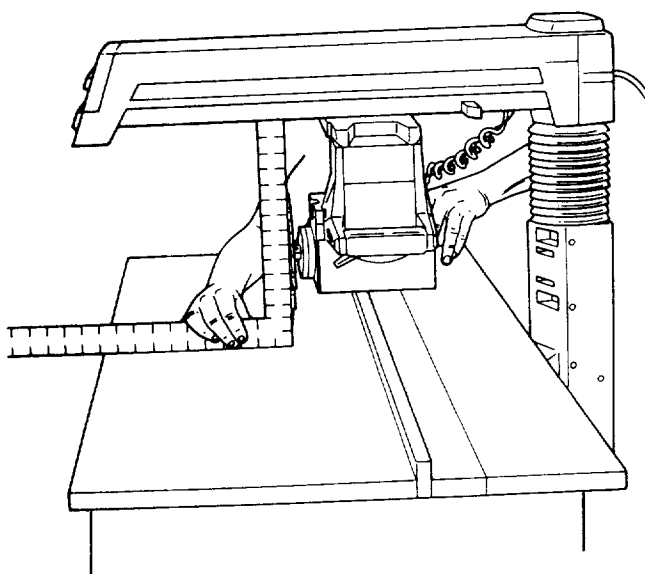

Fig. 80
3. Place the long edge of the framing square on the *table* and the short edge against the *blade* alongside the *arbor shaft*. Make sure the square is against the surface of the *blade* and not on the set of a tooth. (Figure 80)